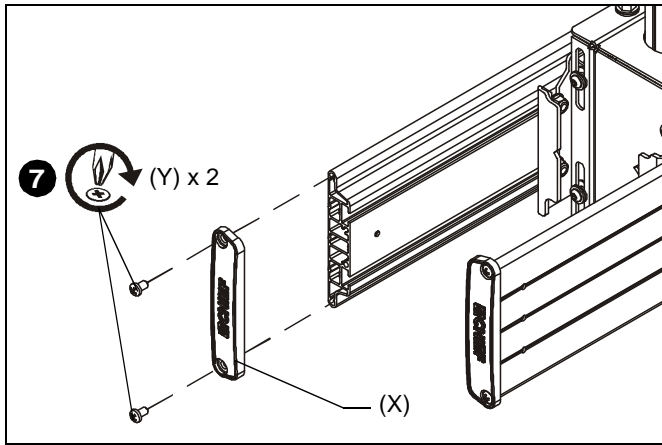

Figure 12
6. Repeat for remaining add-on head (FF).
7. Add one end cap (X) to each end of mounting rail (MM), and fasten in place using two 1/4-20 x 1/2" Phillips self-tapping screws (Y) for each end cap. (See Figure 12)